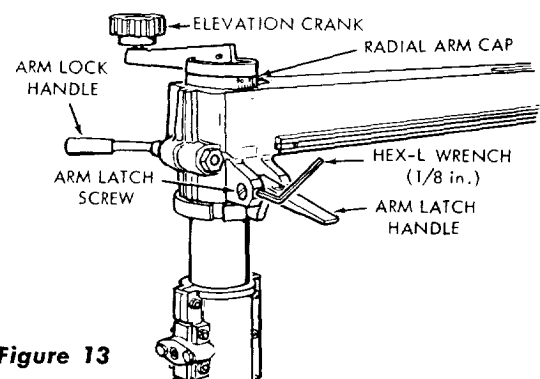

Figure 13
- a. Using a 1/8-inch Hex-L wrench, loosen the two set-screws that lock the arm latch screws. (See figure 13.)